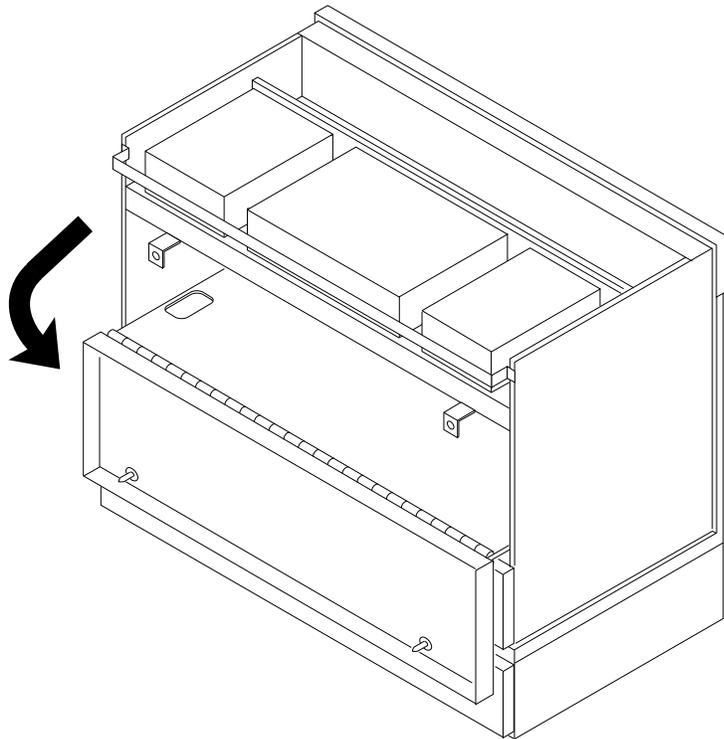

Figure 2-10. MAP/100C – Power Supply Access Door
1. Loosen the two captive screws on the power supply access door on the rear of the unit (Figure 2-10).